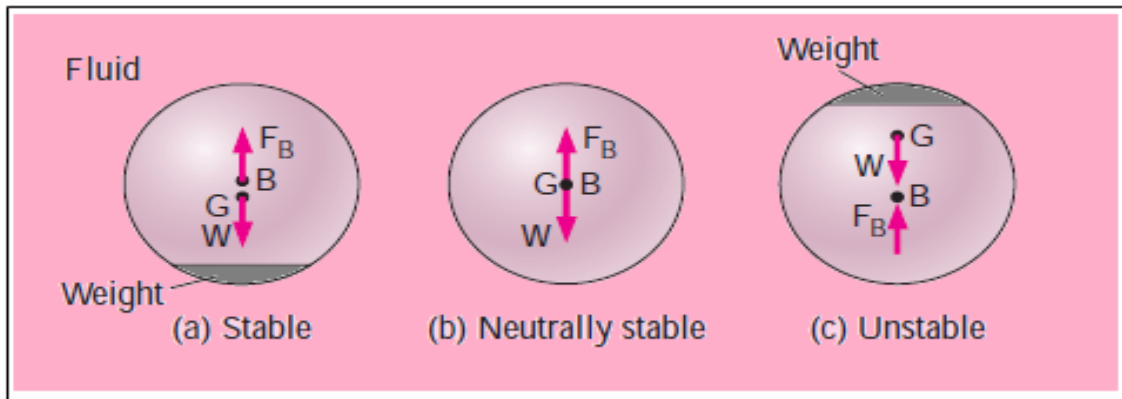

Figure 20. Stability of a Submerged Body
The stability of a submerged body is detected according to the positions of both the center of gravity (G) and the center of buoyancy (B), as shown in Figure 20.